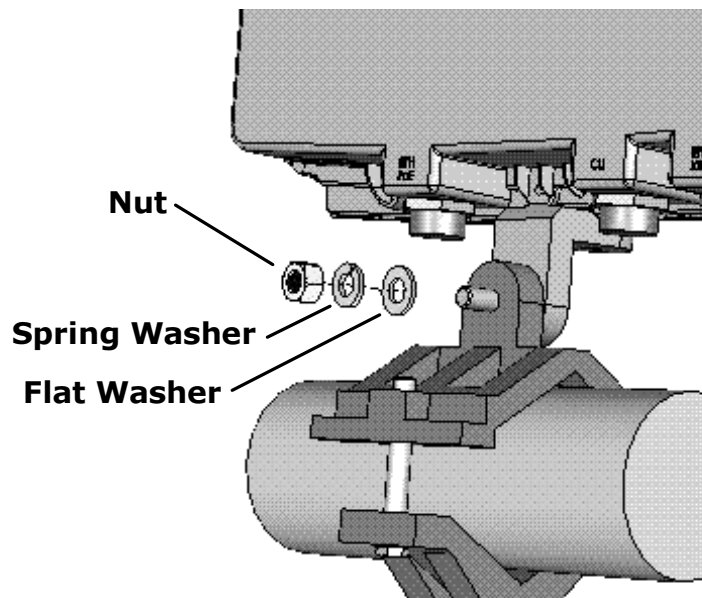

Figure 5: MBW 3100 Unit Horizontal Pole Mounting
1. After assembling the brackets, mount the MBW 3100 unit on to the bracket as shown in Figure 5. Use a flat washer [H], a spring washer [I] and a nut [J].
1. After assembling the brackets, mount the MBW 3100 unit on to the bracket as shown in Figure 5. Use a bolt [F], flat washer [H], spring washer [I] and nut [J].